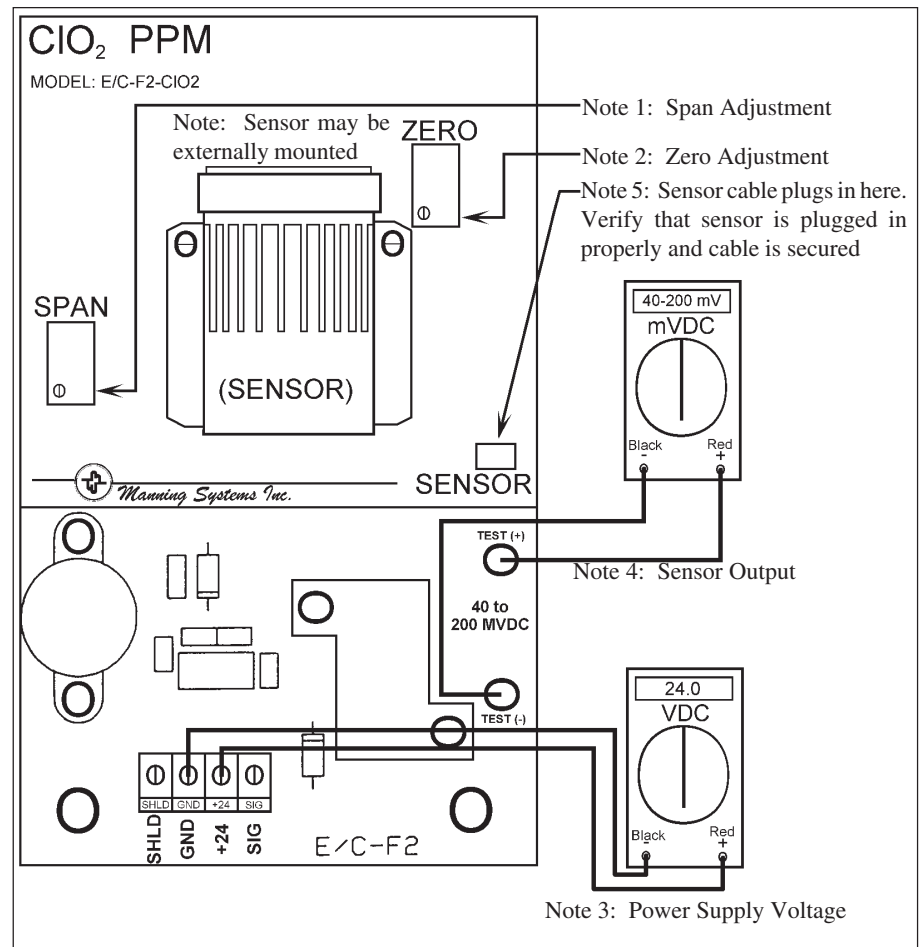

Figure 3: Checking sensor output, power supply voltage, and zero and span adjustments to the EC-F2 Sensor
Before applying power, make a final check of all wiring for continuity, shorts, grounds, etc. (see Figure 3, Note 5). It is usually best to disconnect external alarms and other equipment from the sensor until the initial start-up procedures are completed.
Test [+]) (see Figure 3, Note 2 and 4).
- After span gas has been on sensor for two minutes, adjust the span pot until the correct output is achieved (see Figure 3, Note 1).
If the sensor output is 0 mA: First, verify +24 VDC at the sensor terminal block (see Figure 3, Note 3).
Second, check voltage between Test (-) and Test (+) (see Figure 3, Note 4). Voltage should be in the range of 40 mV to 200 mV corresponding to an actual current flow of 4 to 20 mA. If this voltage is 0 mV, the signal has no path to ground. Check monitoring equipment connections and configuration. Input impedance must be 250 ohms or less.